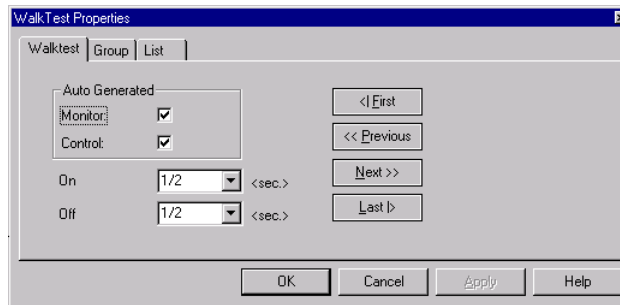

Figure 9-17. WalkTest Group Properties
2. Double click on one of the WalkTest groups to view its properties window. (Alternatively, you can right click on the group and select Properties from the menu that appears.) A screen similar to the one shown in Figure 9-17 appears.